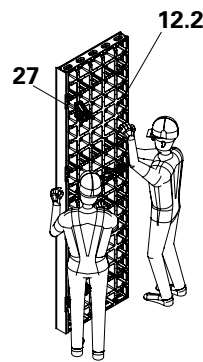

Fig. C1.03
3. Two persons are required to transport the panel unit to the place of operation. (Fig. C1.03)